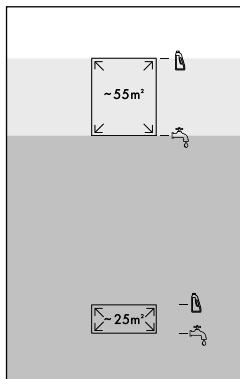

Fig. 9
- ♦ For large areas (up to 55 m2), fill the fresh water tank ⑪ with tap water or distilled water up to the third fill level marking (see fig. 9).
- ♦ For large areas (up to 55 m2), fill the fresh water tank ⑪ with cleaning solution up to the fourth fill level marking (see fig. 9).